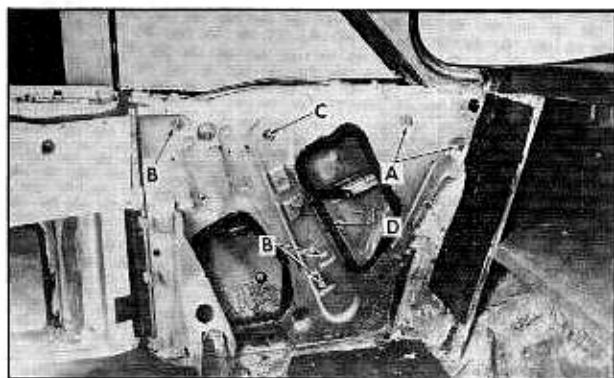

Fig. 3-45 Rear Quarter Window Assembly (6237)
3. To adjust the rear quarter window fore and aft, loosen the rear guide channel screws "A" and the front guide channel screws "B", Fig. 3-45. Then the rear quarter window can be moved fore or aft in the elongated front and rear guide channel attaching screw holes in the inner panel. When the desired position is obtained, retighten the guide channel attaching screws.
3. With rear quarter window in the up position, remove two rear quarter window rear guide attaching screws "A" and remove rear guide from body. Fig. 3-45.
4. With the rear quarter window in the "UP" position, remove the rear quarter rear guide attaching screws, "A", Fig. 3-45.
2. Remove the rear quarter window front guide attaching screws, "B", Fig. 3-45, and carefully remove the front guide from the body, working it through the rear access hole.